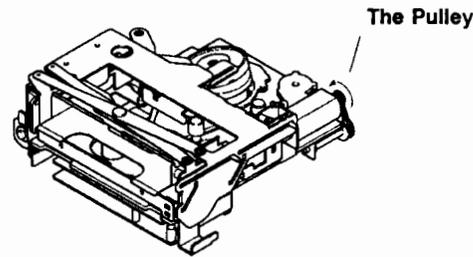

Figure 4-4. Unthreading the tape manually
3. Unthread the tape manually by turning the pulley on the tape threading motor (see **figure 4-4**) until the guide rollers of the tape threading mechanism are fully retracted. At this point, the effort needed to turn the pulley will increase substantially. **DO NOT** attempt to turn the pulley any further, or you may damage the gears of the motor.